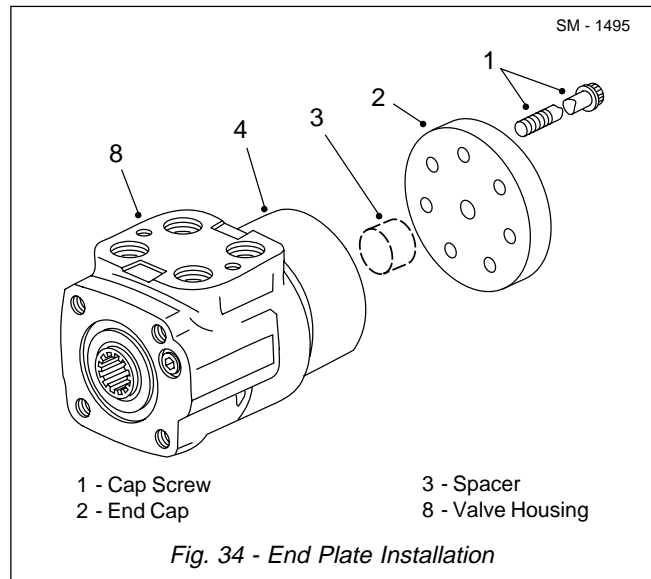

Fig. 34 - End Plate Installation
23. Install spacer (3) in gerotor housing (4) and install end cap (2) on gerotor housing, as shown in Fig. 34.